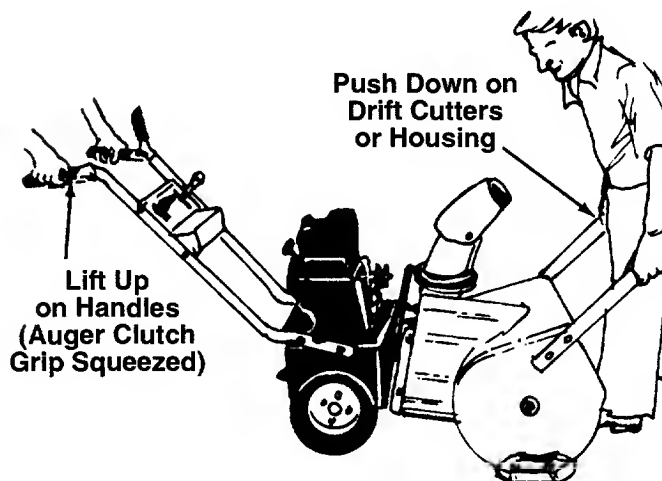

FIGURE 33.
6. To separate the auger housing from the frame assembly, two people are required. One person is in the operating position. Squeeze the auger clutch grip (right hand) as you raise up on the handles. See figure 33. The other person is in front of the unit. Push down on the housing or optional drift cutters. See figure 33. The unit will separate into two pieces.